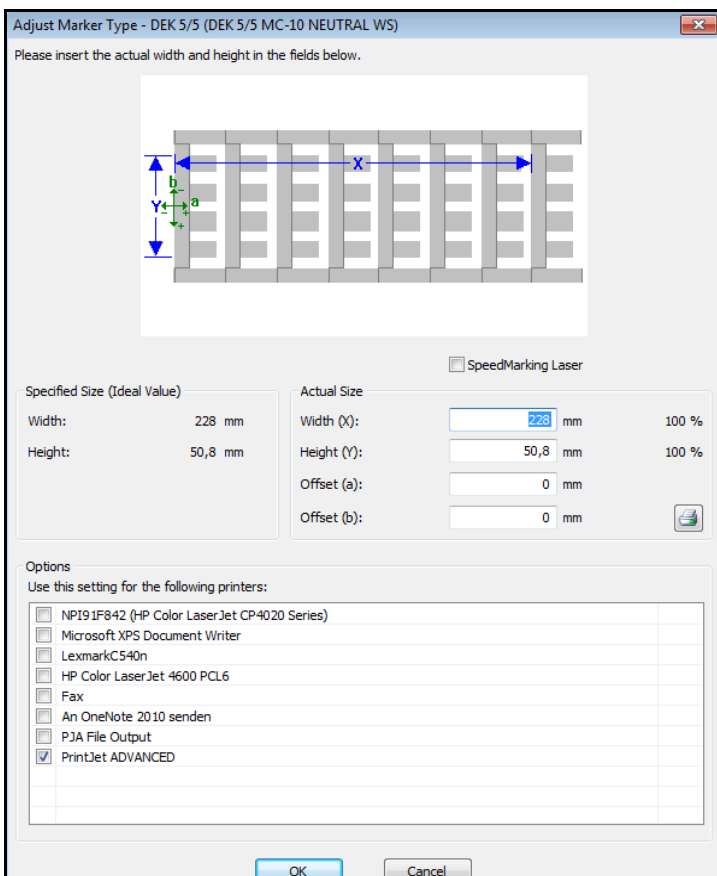

Figure 105 Adjusting the marker type
To adjust this, it is necessary to change the value for 'Offset (a)' in the 'Adjust Marker Type' window (see Figure 105 Adjusting the marker type).
To adjust this, it is necessary to change the value for 'Offset (b)' in the 'Adjust Marker Type' window (see Figure 105 Adjusting the marker type).
To adjust this, it is necessary to subtract the measured value (1 mm in this example) from the actual value for 'Width (X)' in the 'Adjust Marker Type' window (see Figure 105 Adjusting the marker type).
If printing is increasingly shifting, from marker to marker, from the center to the left, it is necessary to add the measured value to the current value for 'Width (X)' in the 'Adjust Marker Type' window (see Figure 105 Adjusting the marker type).
To adjust this, it is necessary to subtract the measured value (1 mm in this example) from the current value for 'Height (Y)' in the 'Adjust Marker Type' window (see Figure 105 Adjusting the marker type).
If printing is increasingly shifting, from marker to marker, from the center downward, it is necessary to add the measured value to the current value for 'Height (Y)' in the 'Adjust Marker Type' window (see Figure 105 Adjusting the marker type).